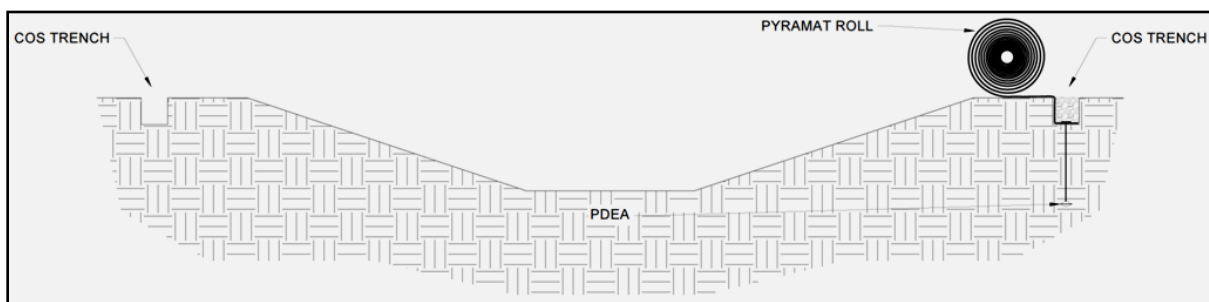

Figure 18: Crest of Slope (COS) Trench Placement
8. Backfill and compact the COS trench in the location of the first Pyramat panel only (Figure 18).